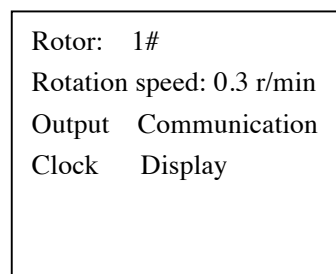

Figure 5
(2) Turn on the power supply switch on the back of the instrument and enter into the user choice mode as shown in figure 5. The cursor is at the “1#”. Press “right move” button to choose the required rotor.
(3) Press “down” button to switch to rotation speed item. The cursor is at the item 0.3 r/min shown as in the figure5.
(5) In figure 5, when adjusting the cursor to the “output” position, press the “right move” button to choose “communication” and “print”. Press “ok” button at the “print” position, and it will print the test data through a printer. The function of “communication” is not used.
(6) In figure 5, when moving the cursor to the “clock” position, press “right move” button, and choose “indicate” and “modify”. If the “ok” button is pressed at “display” position, it will indicate the hour: minute: second –year-month-day at present. If the “ok” button is pressed at “modify” position, the time and data can be modified.
(7) Press “reset” button and the instrument will stop measuring. Press the “ok” button, to resume measuring the viscosity of sample using the previous rotor number and rotation speed.